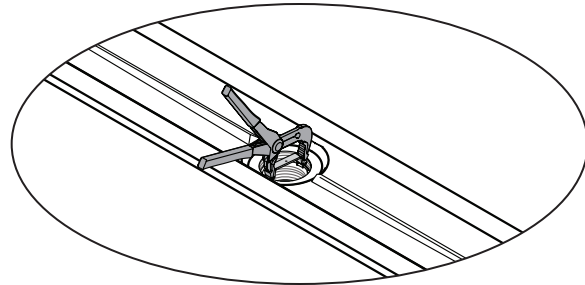

Figure 11
- 18** Using the adjustable pliers, snap the support bracket into the groove in the drain fitting. The top surface of the support bracket should be flush with the top surface of drain pyramids. (Figure 11)